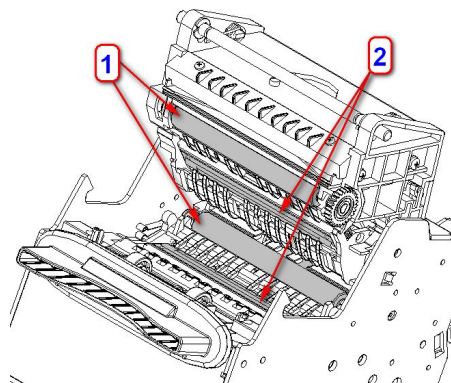

Figure 5.2-2 Cleaning print head
- 3) In the figure 5.2-2, No.1 is platen roller and No.2 is print head. Clean the surface of print head with soft cotton cloth dipped with pure alcohol (it should be wrung out);